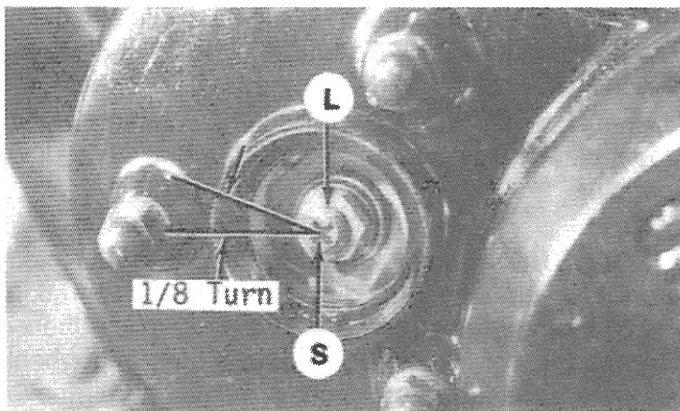

Fig. S13-15—View of clutch adjuster screw (S) and locknut (L). Refer to text for adjustment procedures.
case cover to expose adjuster screw (S—Fig. S13-15) and locknut (L). Loosen locknut (L) and turn adjuster screw (S) clockwise until internal resistance is felt. Then rotate screw (S) counterclockwise $\frac{1}{8}$ turn and retain adjusting screw position while tightening locknut (L).